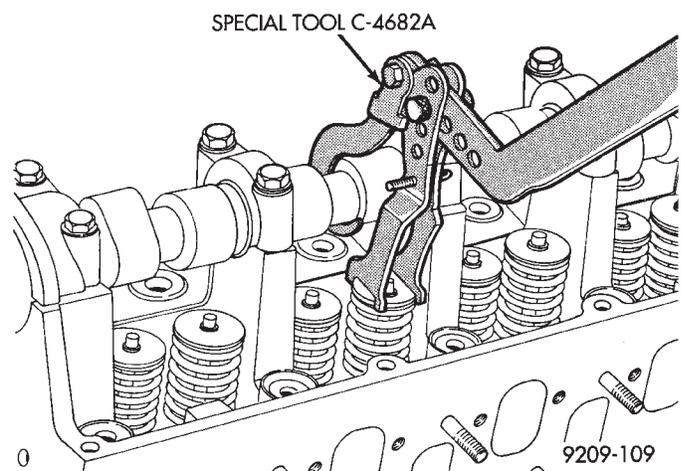

Fig. 12 Removing and Installing Valve Spring
(1) Remove valve cover.
(2) For each rocker arm, rotate cam until base circle is in contact with rocker arm. Depress valve spring using Special Tool C-4682 (Fig. 12) and slide rocker arm out. Keep rocker arms in order for reassembly.
(3) Remove hydraulic lash adjuster.
(1) Install hydraulic lash adjusters making sure that adjusters are at least partially full of oil. This is indicated by little or no plunger travel when the lash adjuster is depressed.
(2) Rotate cam until base circle is in contact position with rocker arm. Depress valve spring with Special Tool C-4682 (Fig. 12) and slide rocker arm in place. Keep rockers in order. It is possible for the valve spring retainer locks to become dislocated when depressing the valve spring. **Check and make sure the locks are in their proper location.**
(3) Install valve cover as previously outlined in this section.
(1) Remove rocker arms as previously outlined in this section.
(2) Rotate crankshaft until piston is at TDC on compression.
(3) With air hose attached to adapter tool installed in spark plug hole, apply 90-120 psi air pressure.
(4) Using Special Tool C-4682 (Fig. 12) compress valve springs and remove valve locks.
(5) Remove valve spring.
(6) Remove valve stem seal by gently prying side-to-side with a screwdriver blade. Once dislodged from guide post, seal may be easily removed.